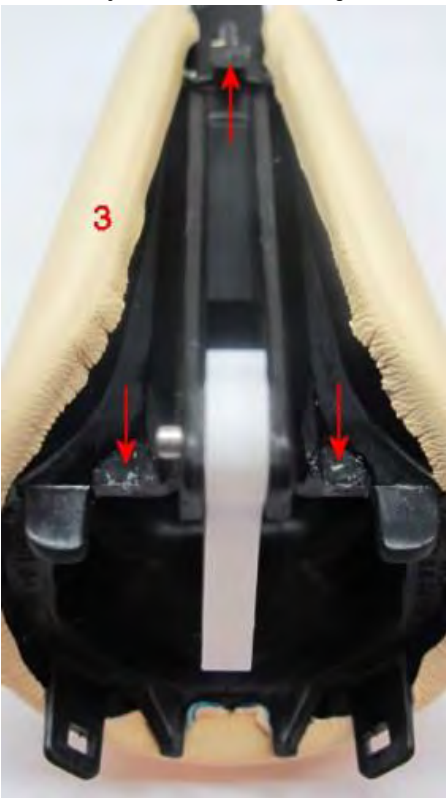

Figure 4
6. Apply adhesive, Loctite9464 (source locally), to the clips (arrows) on the main body (3) (see Figure4)